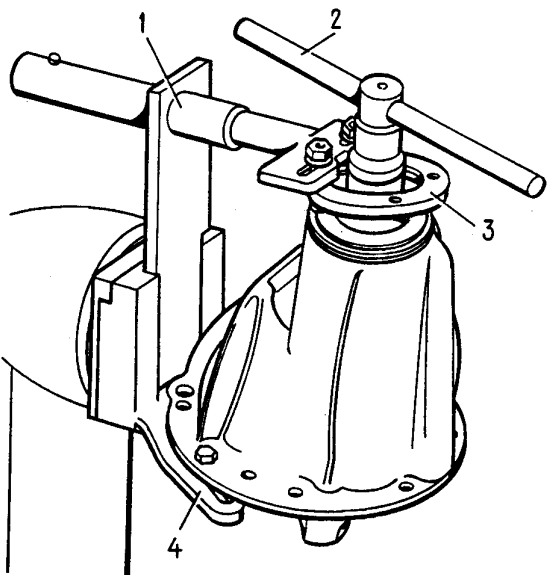

Fig. 3-69. Turning off Drive Pinion Nut:
- turn the final drive housing with the throat up (Fig. 3-69) and unscrew the flange nut with wrench 2, holding drive pinion flange 3 with retainer 1;